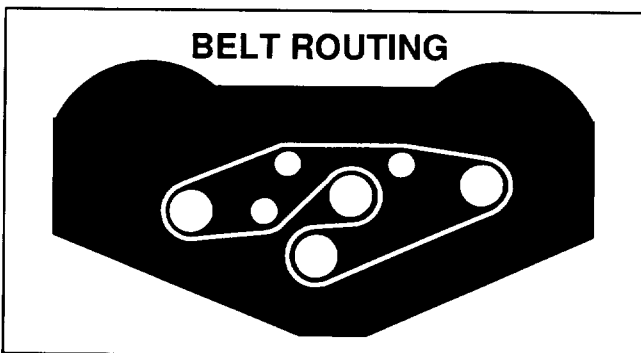

Figure 31
5. Route new belt around spindle pulleys and idler pulley assembly, as shown in figure 31.